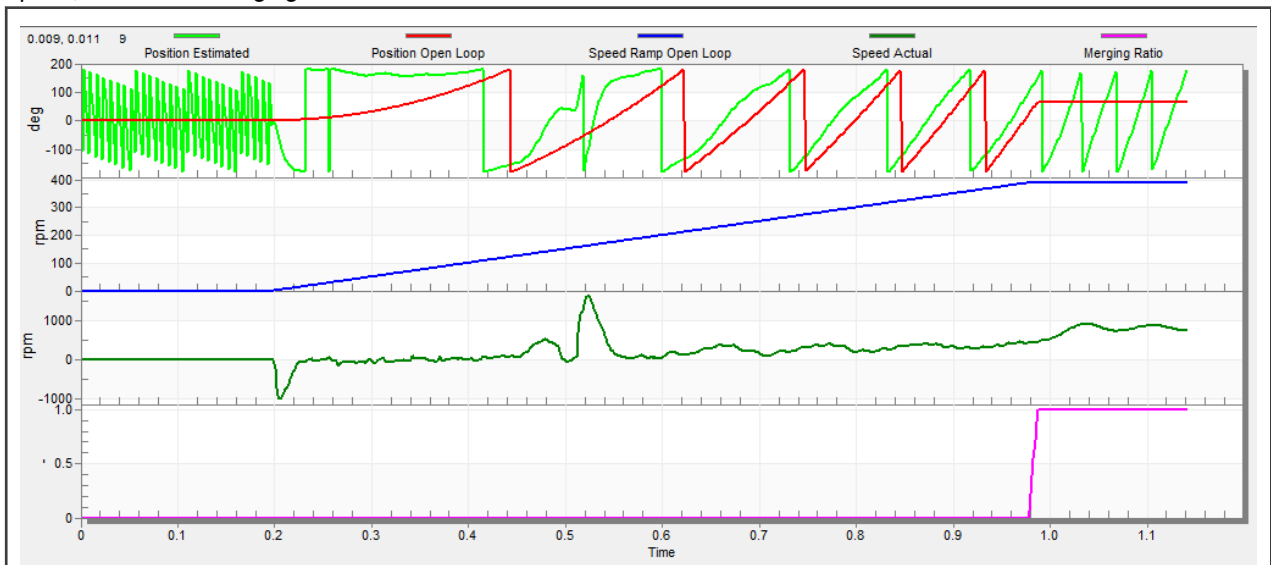

Figure 34. Motor startup
1. The start-up process can be tuned by a set of parameters located in the "Sensorless" tab. Two of them (ramp increment and current) are accessible in both tuning modes. The start-up tuning can be processed in all control modes besides the scalar control. Setting the optimal values results in a proper motor startup. An example start-up state of low-dynamic drives (fans, pumps) is shown in Figure 34.